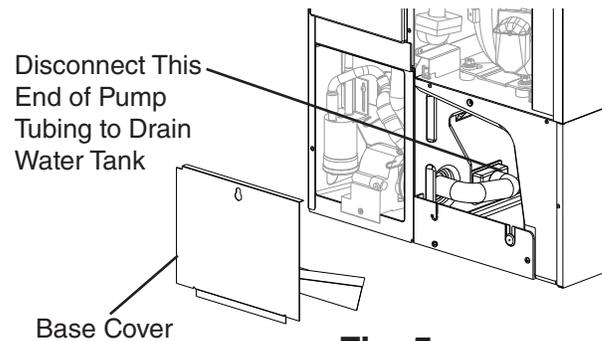

Fig. 5
5) Remove the base cover, then disconnect one end of the pump tubing to drain the water tank. See Fig. 5. After the water tank has drained, reconnect the pump tubing.